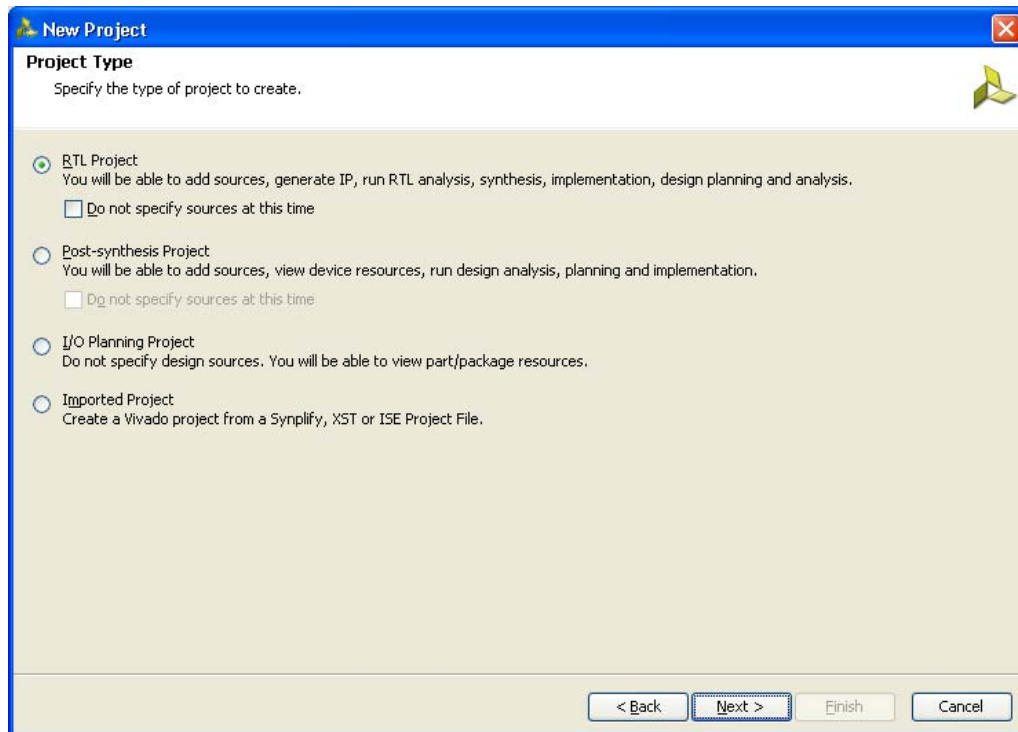

Figure 2-4: Project Type
4. Click **Next** to proceed to the **Project Type** page (Figure 2-4). Select the **Project Type** as **RTL Project** because MIG deliverables are RTL files.